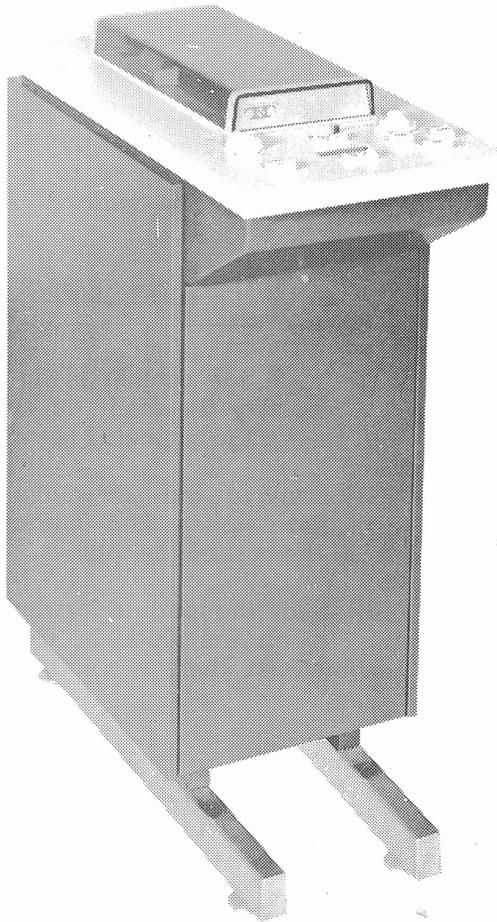

Figure 2 - Magnetic Tape Set Used With CDT or Other Parallel Device
1.03 Figure 2 shows the tape set designed for use with the CDT or other parallel devices. The cabinet style matches the CDT cabinetry. The control panel provides the operating controls required in this type of service, and